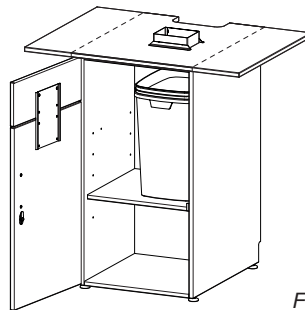

Fig. 21
3.10.3 Base cabinet with coffee residue outlet (fig. 21)